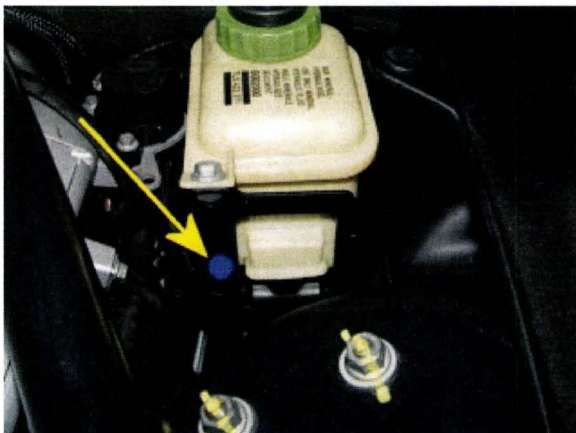

Figure 11
6. Place a Blue paint completion mark on the power steering reservoir bracket (Figure 11) to confirm the steering rack and the lower lever bushes (if pre VIN SCBBA63Y9B [REDACTED]) have been replaced.